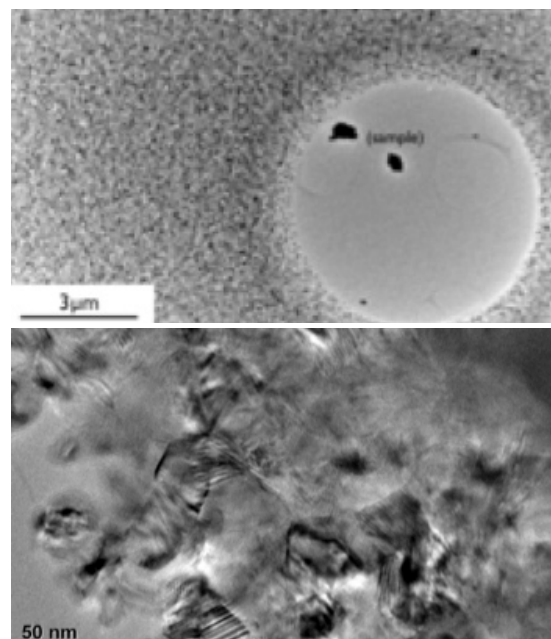

Figure 4.
**Figure 4.** TEM images of the ceramic membrane. The top image shows a low magnification view of a hole in the membrane. The black particles in the hole are clusters of a sample that were dispersed on the surface. This E-chip has a layer of carbon for extra support. The bottom image is the membrane at higher magnification, and shows the polycrystalline grains of the membrane.